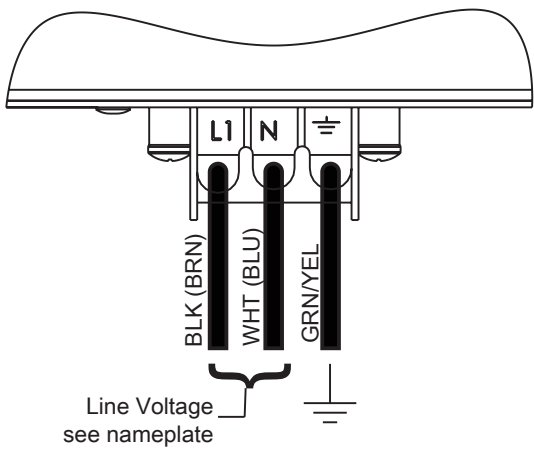

Figure 4
11. Wire the filter fan following the Wire Diagram as shown in Figure 4 on page 5.